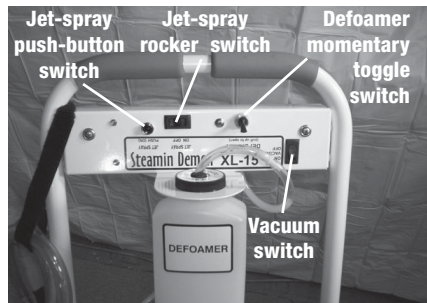

Figure 16: Control panel
A. Before You Begin- Before starting your machine, familiarize yourself with the control panel (fig 16). This panel has five switches.